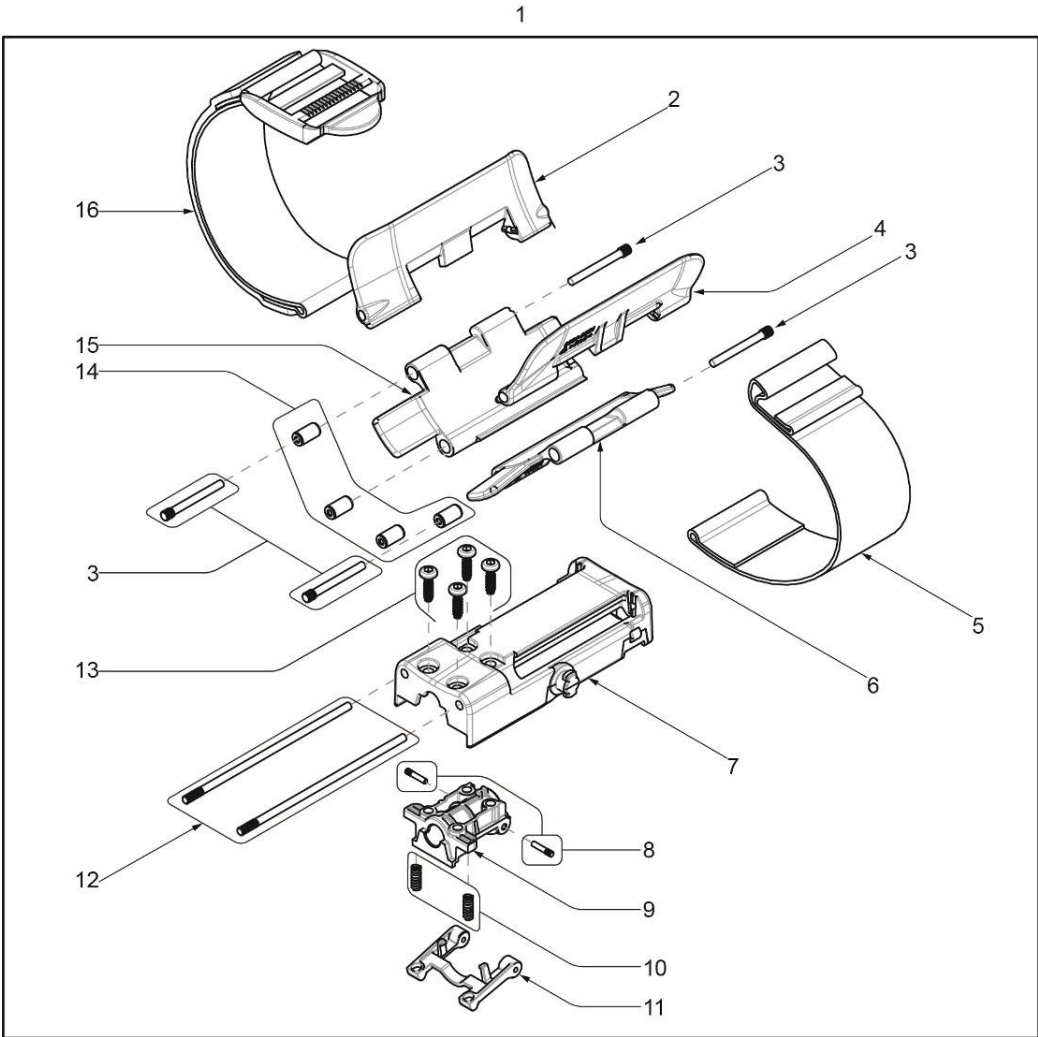

Figure 86. Armrest Kit with Slide
a. The armrest is a line replaceable unit with or without slide as shown in Figure 86.